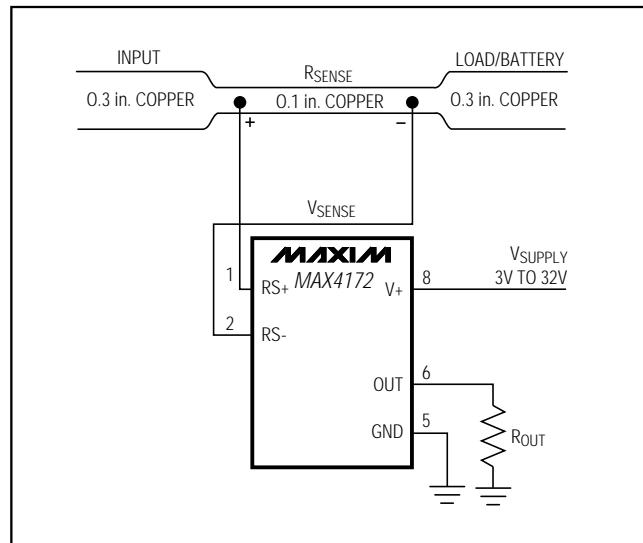

Figure 2. MAX4172 Connections Showing Use of PC Board
- Cost:** If the cost of RSENSE is an issue, you might want to use an alternative solution, as shown in Figure 2. This solution uses the PC board traces to create a sense resistor. Because of the inaccuracies of the copper resistor, the full-scale current value must be adjusted with a potentiometer. Also, copper's resistance temperature coefficient is fairly high (approximately $0.4\%/\text{°C}$).
In Figure 2, assume that the load current to be measured is 10A, and that you have determined a 0.3-inch-wide, 2-ounce copper to be appropriate. The resistivity of 0.1-inch-wide, 2-ounce ($70\mu\text{m}$ thickness) copper is $30\text{m}\Omega/\text{ft}$. For 10A, you might want $RSENSE = 5\text{m}\Omega$ for a 50mV drop at full scale. This resistor requires about 2 inches of 0.1-inch-wide copper trace.